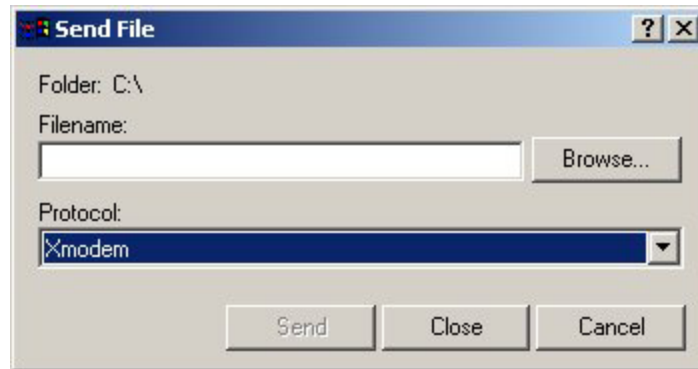

Figure 10: Connection to upgrade the Firmware: transferring the file
7. Upload the Firmware upgrade file, selecting the X-modem protocol on the pull-down menu as shown in figure 10.